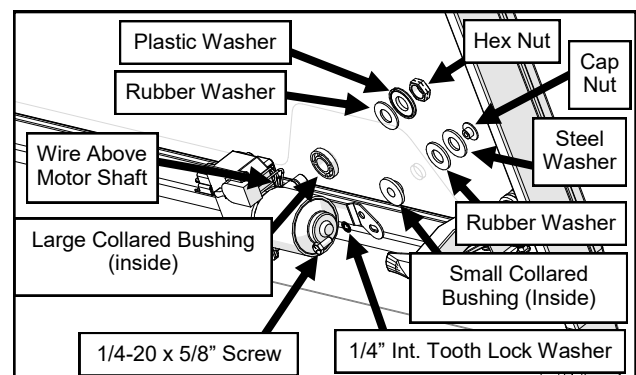

Fig. 12.1 (Windshield Wiper Motor)
- 12.1** Mount the wiper motor to the windshield. See Figure 12.1. Make sure the wires are above the wiper motor shaft to prevent pinching the wires when the windshield is opened and closed, then connect to the wire harness.